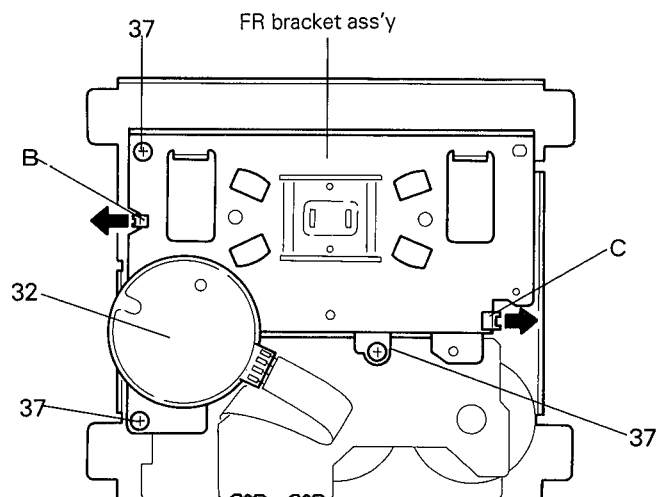

Fig. 5-44
■ Capstan motor and Flywheel (Fig. 5-44 through 5-46)
2. Remove three screws (37) retaining the FR bracket assembly from the chassis base. (Fig. 5-44)
3. Expand two pawls (B, C) retaining the FR bracket assembly in the direction of the arrow to remove them. (Fig. 5-44)